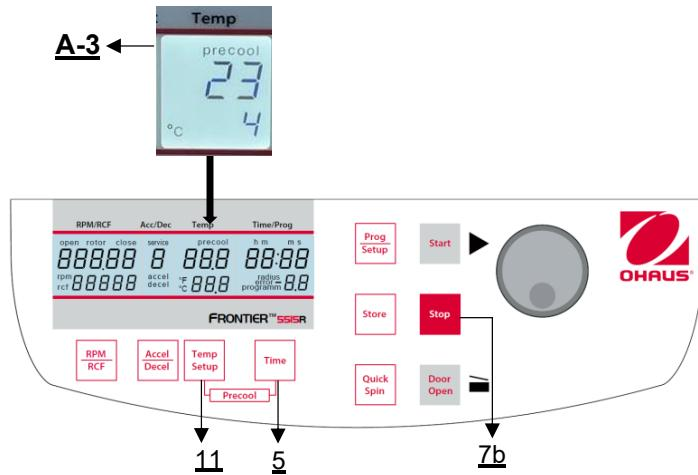

Figure 20
If the samples are temperature-sensitive it is useful to pre-cool the centrifuge, the rotor and eventually the buckets to the required working temperature. Therefore, insert the desired rotor and pre-set the respective temperature. By simultaneous pressing the keys "**Temp/Setup**" (11) and "**Time**" (5) you can start the run (**Figure 20**). While running, the unit chooses automatically a rotational speed that is equivalent to 30 or 50 % of the permitted rotational speed of the respective rotor (depending on the rotor). After the pre-set temperature is reached you can leave the pre-cooling run with the key "**Stop**"(7b)